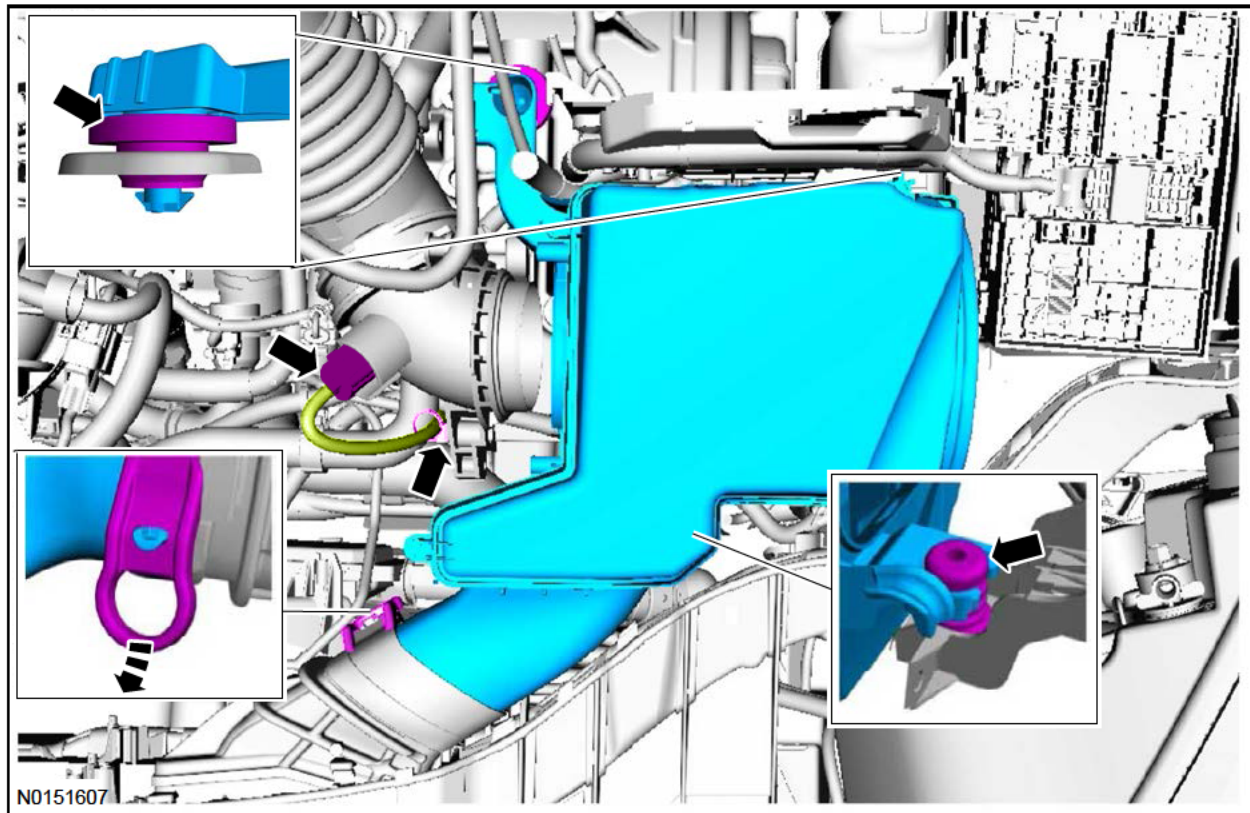

FIGURE A2
10. Remove the air cleaner assembly. See Figure A2.